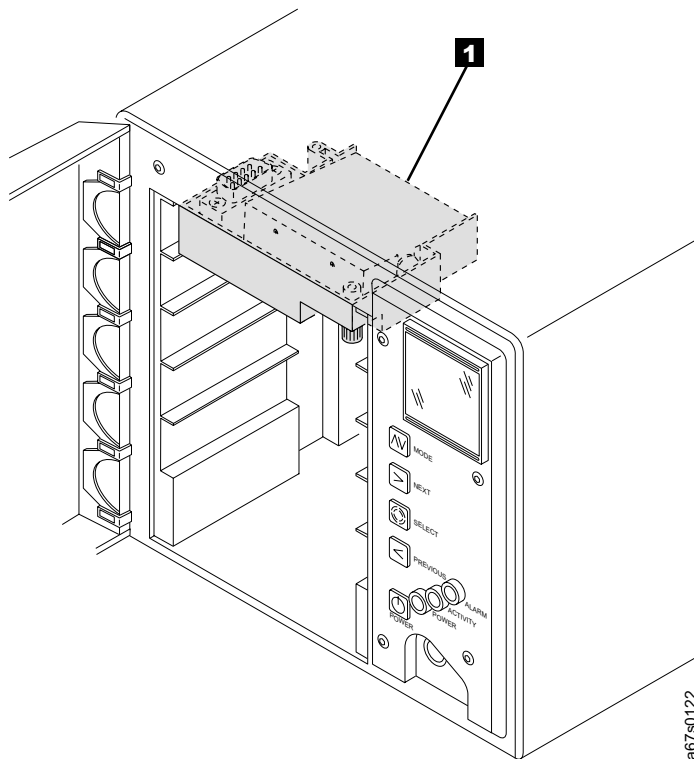

Figure 23. Cleaning the lens of the bar code reader. The lens is located at the rear of the installed bar code reader.
1. Wipe the lens of the bar code reader with a lint-free cloth (see **1** in Figure 23). Retry the operation.